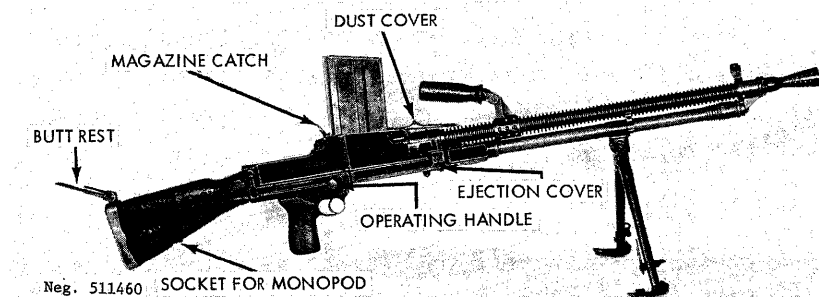
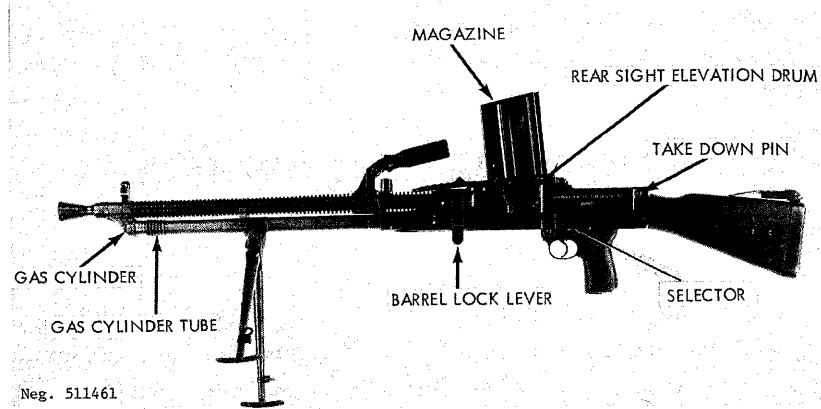
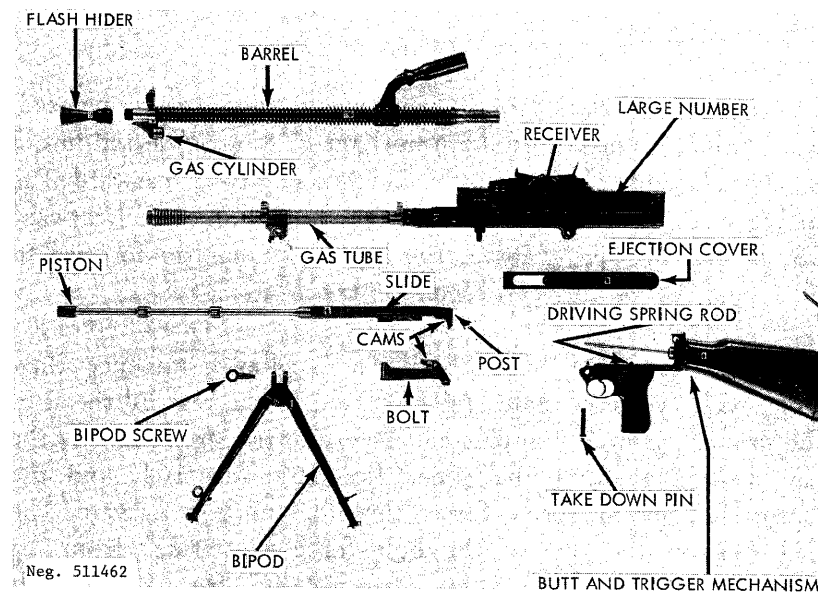
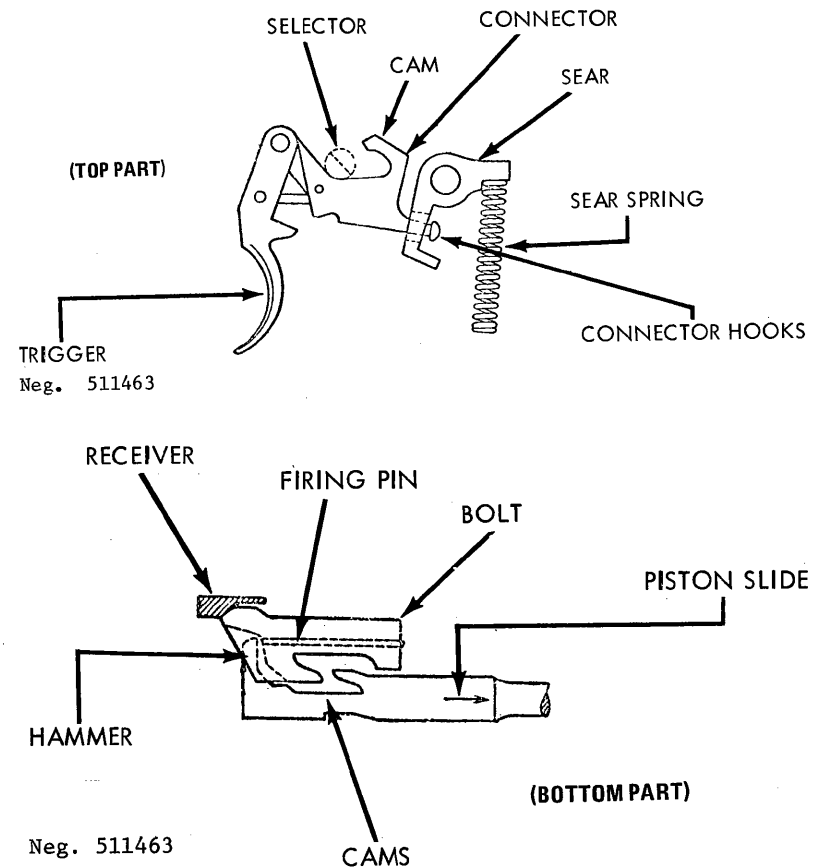

Figure 161. ZB 30 light machinegun.
Figure 162. ZB 26 light machinegun.
Figure 163. PRC copy of ZB 26, field stripped.
Figure 164. ZB30 bolt and trigger mechanism functioning.
a. The Czechoslovak-designed and -produced ZB26 and ZB30 machineguns were among the first modern light automatic guns. The two guns are almost identical externally; the ZB30 (fig 161), however, has a socket in the bottom of its butt to receive a
monopod; the ZB26 (fig 162) does not have such a fitting. Internally the basic design is similar but there are major differences in the shape of the breech bolt and piston slide, and these parts are not interchangeable between models. These air-cooled, box magazine-fed, bipod-mounted guns have many clever design features; some are retained in the design of the later
b. Copies of the ZB26 were produced in China prior to and during World War II; many of these guns were taken over by the People's Republic of China (fig 163) and are now used in Southeast Asia.
c. The Czechoslovak-produced guns can be identified by their markings. The word BRNO along with other Czechoslovak identifying marks will be on the left side of the receiver. The legend Lehky Kulomet ZB VZ 30 (or 26) is on the right side. This latter marking may be different on guns made for export sales. The older Chinese-made guns have serial numbers in large figures stamped into the left receiver wall, often preceded by a swastika (fig 163).
b. Swing the bipod legs forward until they spring apart and lock into place. They can be folded by pressing the legs together and swinging them rearward. The butt rest (fig 161) can be folded or unfolded by pulling it away from its hinge and rotating it to the desired position. This rest can be used to support the gun on the gunner's shoulder while he is firing from the prone position.
c. Slide the dust cover forward, if necessary. Tilt the magazine forward and engage its front lug with the recess in the front of the magazine opening. Rock the magazine back until the magazine catch (fig 161) snaps into place.
d. Rotate the selector (fig 162) to its middle (safe) position. Grasp the operating handle (fig 161), pull it fully rearward, and then return it forward.
e. Turn the elevation drum (fig 162) until the desired range (in hundreds of meters) appears in the opening at the rear of the drum.
f. Rotate the selector (fig 162) forward for automatic fire or rearward for semiautomatic fire. Use a normal sight picture, aim, and press the trigger to fire. The bolt will be caught to the rear when the magazine is empty.
g. Remove the magazine by pressing the magazine catch (fig 161) toward the magazine; at the same time press the magazine forward and rotate it out of the gun. Reload as described in paragraph c above. The gun does not have to be recocked after reloading, because the follower of the empty magazine held the bolt open.
h. The ZB26 and ZB30 machineguns have quick-change barrels. Remove the magazine; press the latch on the inside of the barrel lock lever (fig 162) into the lever to release the lever from the receiver. Rotate the lever up as far as possible, and by means of the carrying handle, pull the barrel forward off the gun. Insert a replacement barrel; insure that the gas cylinder enters the gas cylinder tube (fig 162). Turn the barrel lock lever down until it locks in place; reload and resume fire. The barrel can be changed with the bolt rearward or forward.
i. Clear the gun; set the selector to its middle (safe) position; remove the magazine, and then pull the operating handle rearward. Look through the magazine opening to insure that no cartridges are present. Move the selector from safe, grasp the operating handle, press the trigger, and ease the operating handle forward. Slide the magazine opening dust cover (fig 161) rearward; then slide the ejection cover (fig 161) rearward. Set the selector back to its middle (safe) position.
b. Press out the takedown pin (fig 162) from left to right and slide the butt and trigger mechanism rearward out of the receiver.
c. Holding a hand over the rear end of the receiver, point the front end up. The slide and bolt (fig 163) will slide rearward; remove them. Pull the bolt (fig 163) rearward and up off the slide.
e. To reassemble the gun, place the bolt over the slide post (fig 163) and push the bolt forward on the slide so that the undercuts at the front of the bolt mate with their tracks on the slide. Insert the gas piston into the rear of the receiver, and when the piston is far enough in, align the ribs on the slide and receiver and push the slide into the receiver. Tilt the receiver down until the bolt and slide go forward.
b. The ZB26 and ZB30 machineguns commence their firing cycle with the slide and bolt held to the rear by the sear. The driving spring is compressed. When the trigger is pressed, the sear disengages from the slide (figs 163 and 164) and the compressed driving spring forces the slide and bolt forward. The feed ribs on the top of the bolt force a cartridge from the magazine and drive it into the chamber. The front of the bolt strikes the end of the barrel; the extractor snaps into the groove of the cartridge case; and the bolt stops. The slide continues forward, and a cam on its top side forces the rear end of the bolt upward into its seat in the receiver. The slide then continues forward a short distance and its hammer (fig 164) strikes the firing pin to ignite the cartridge.
d. As the slide moves, the cams on the slide (fig 164) contact the bolt and pull it down from its locked position; when unlocked, the bolt and slide travel rearward as a unit. The extractor pulls the fired cartridge case from the chamber and holds
e. By rotating the selector (fig 162), the ZB26 or ZB30 trigger mechanism can be set for either semi- or full automatic fire. When the selector is rotated forward to the full automatic setting, a solid section on its shaft depresses the connector, which fits through a hole in the lower arm of the sear. As the trigger is pressed, the connector moves forward; the lower hook (fig 164) engages the sear and causes it to rotate about the pin. The sear nose releases the slide, the firing cycle commences and continues until the trigger is released and the sear spring forces the sear up to intercept the slide.
f. When the selector is rotated rearward to the semiautomatic setting, the connector raises to its highest position; as the trigger is pressed, the upper hook of the connector raises to its highest position. As the slide drives forward, it hits the cam (fig 164) on the connector and forces the connector down. The hook releases the sear that, because of its spring, snaps up and catches the slide when it recoils. Thus only one shot is fired; the trigger must be released to allow the connector to move rearward and its hook to reengage the sear so that a second shot can be fired.
g. When the selector is rotated to its middle or safe position, the hooks are positioned centrally in the hole in the sear (fig 164). Thus, when the trigger is pressed, the connector hooks do not activate the sear to release the slide.